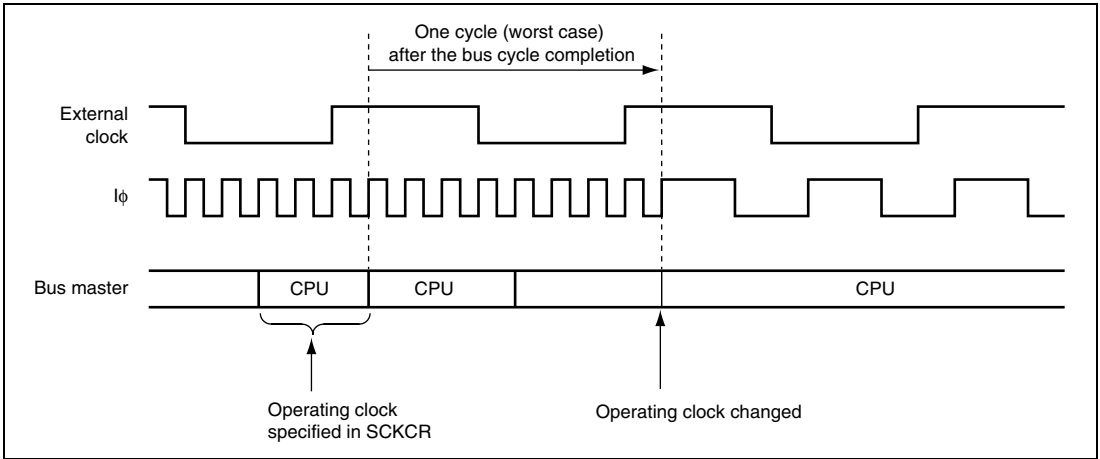

Figure 21.6 Clock Modification Timing
5. Figure 21.6 shows the clock modification timing. After a value is written to SCKCR, this LSI waits for the current bus cycle to complete. After the current bus cycle completes, each clock frequency will be modified within one cycle (worst case) of the external input clock ϕ .